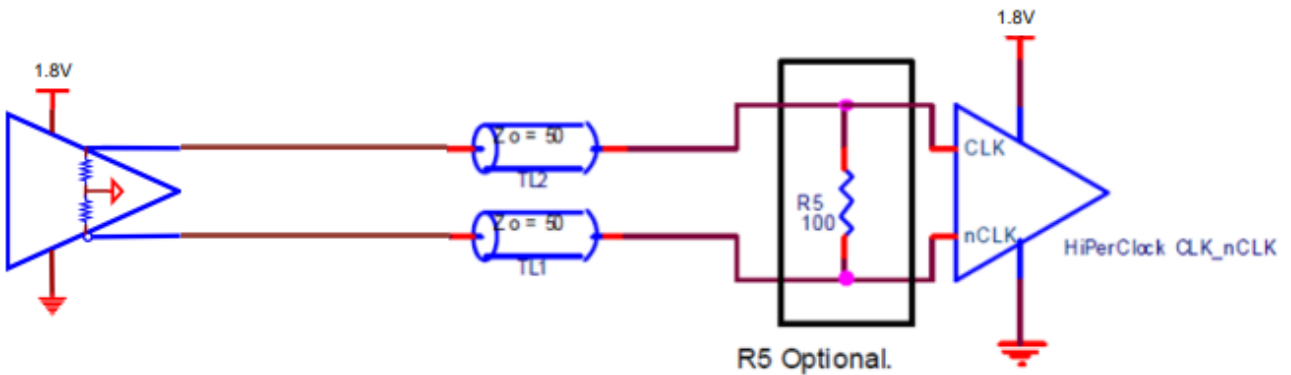

Figure 2. HCSL Internal Transmitter Termination with Optional Resistor
- Figure 2. HCSL Internal Transmitter Termination with Optional Resistor2
In the case where there may be discontinuities in the traces due to vias, connectors, etc., then a resistor may be added at the receiver to improve signal integrity (see Figure 2). If R5 is used, it improves the signal quality but reduces the signal amplitude by half due to the double termination.